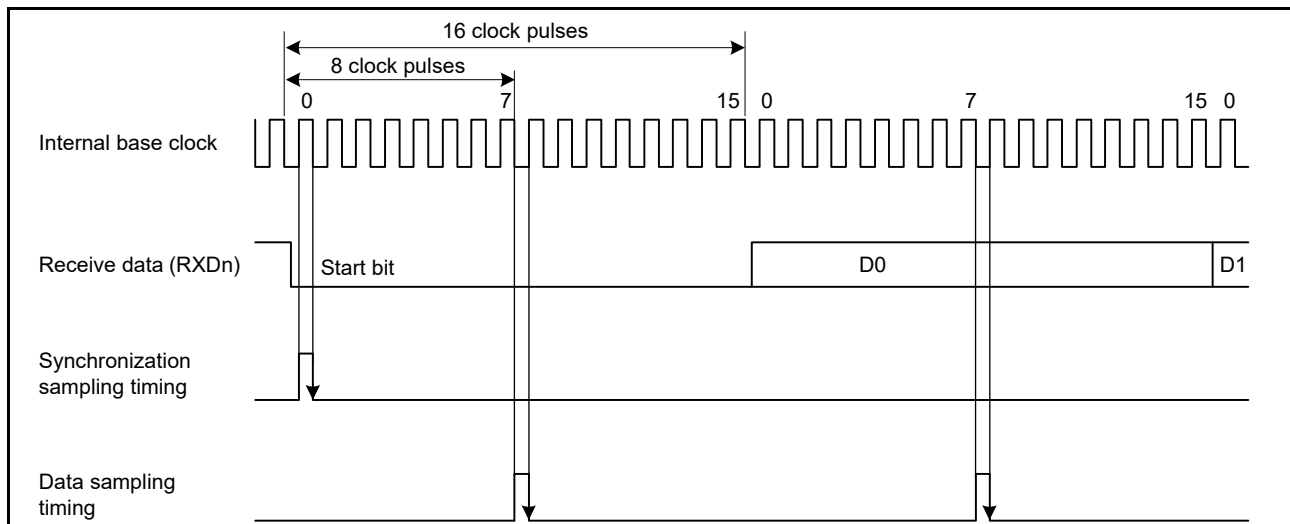

Figure 27.3 Receive data sampling timing in asynchronous mode
Because receive data is sampled on the rising edge of the 8th pulse\*1 of the base clock, data is latched at the middle of each bit, as shown in Figure 27.3. Therefore, the reception margin in asynchronous mode is determined by the following formula (1):